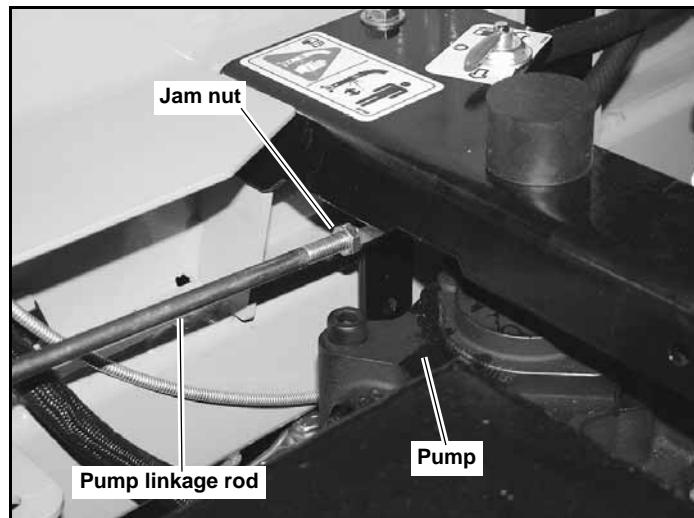

Figure 4-3
6. If wheel(s) are rotating forward, loosen the jam nuts on the pump linkage rods and rotate the rod to lengthen the steering control linkage until the wheel(s) come to a stop. Figure 4-3
- shorten the steering control linkage until the wheel(s) come to a stop. Figure 4-3